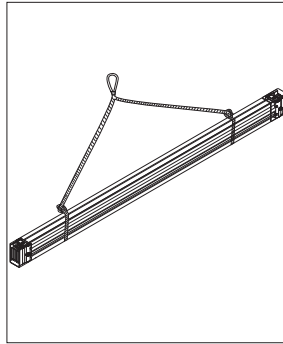

Figure 2
2. Product shall be hanged and lifted as shown in "Figure 2" while it is handled. (Figure 2)